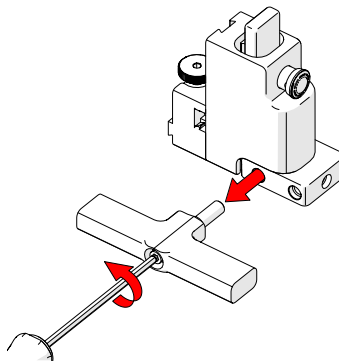

Fig. 51 - Remove yoke
2. Use the supplied 3 mm driver to unscrew the yoke (Fig. 51).